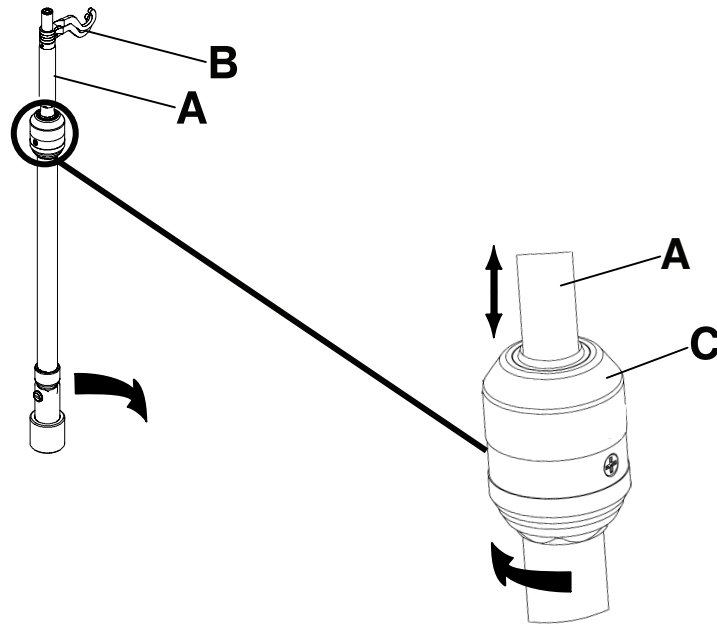

Figure 104 – Operating the IV pole
- To raise the height of the pole, pull up on the telescoping portion (A) until it locks into place at its highest height position (Figure 104).
- Rotate the IV hangers to the desired position and hang the IV bags (B).
- To lower the IV pole, turn the latch (C) until the telescoping portion lowers.